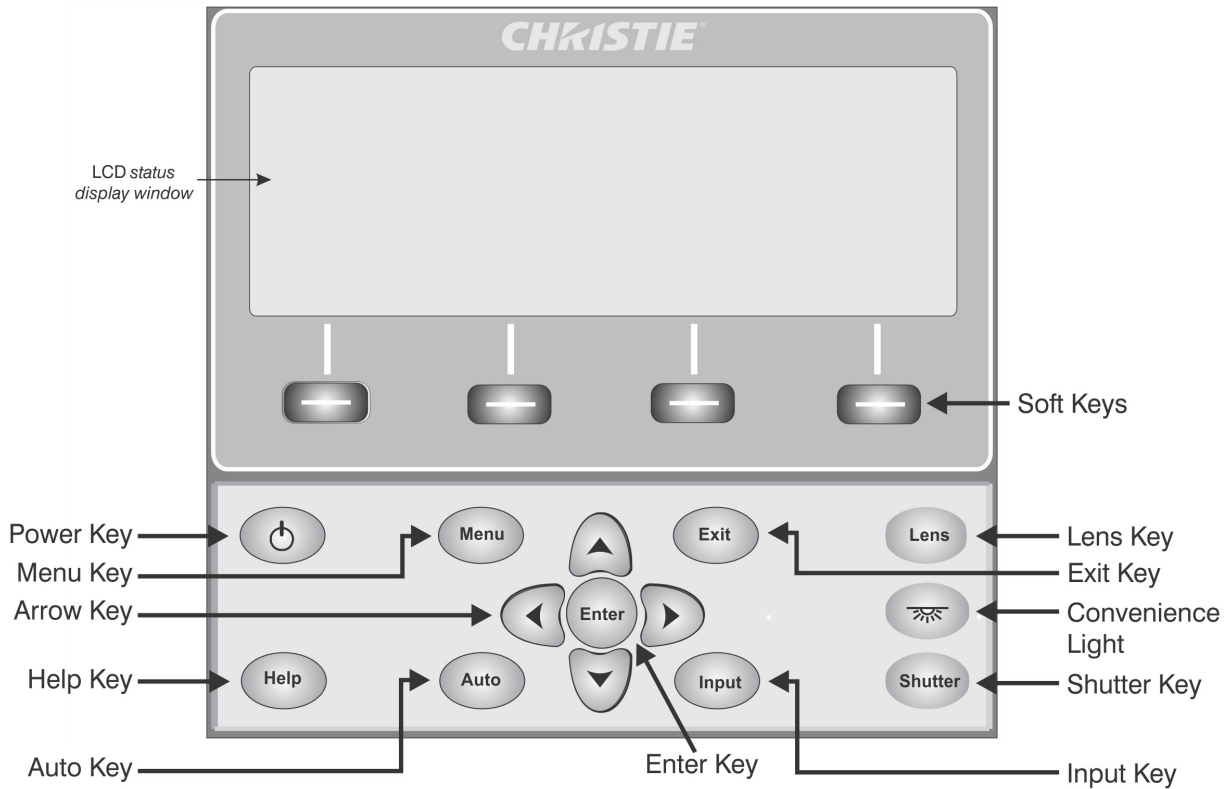

FIGURE 3-2
- **Built-in Keypad** located at the rear of the projector. See *Figure 3-2* .